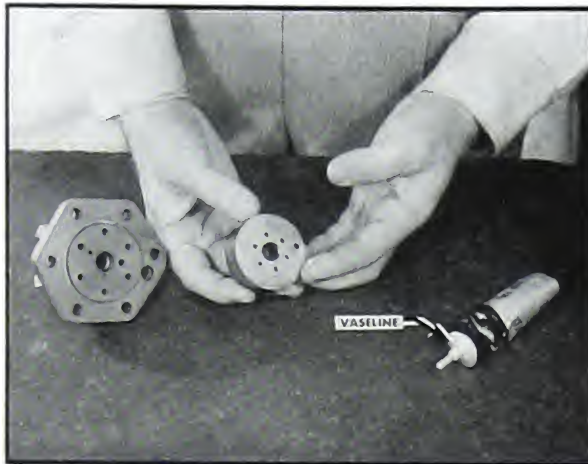

Fig. 5-338. Coat disc with vaseline
2. Apply a coat of clean vaseline or Lubriplate to the cover and disc. Fig. 5-338.